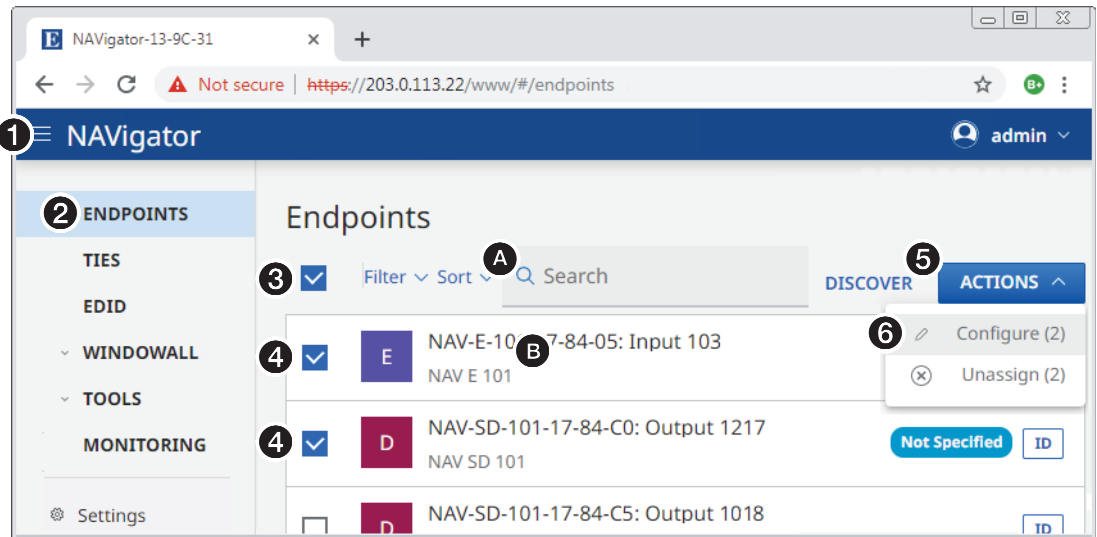

Figure 27. Selecting Configure
1. If necessary, click the **Menu** icon (see figure 27, **1**).
1. Click in the field for the connected endpoint (see figure 27, **B**). The HTML page opens a **Device Details** pane at the right of the page.